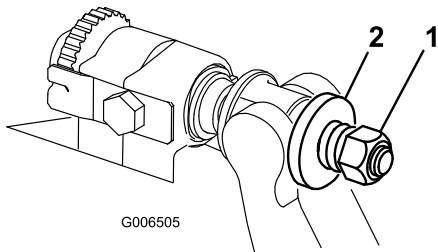

Figure 22
6. Tighten the spring tension nut until the spring is collapsed, then back it off 1/2 turn (Figure 22).